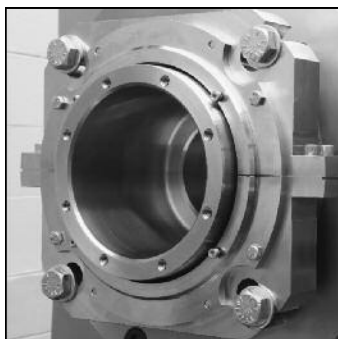

Figure 27
**NOTE:** The completed seal installation should look like Figure 27.